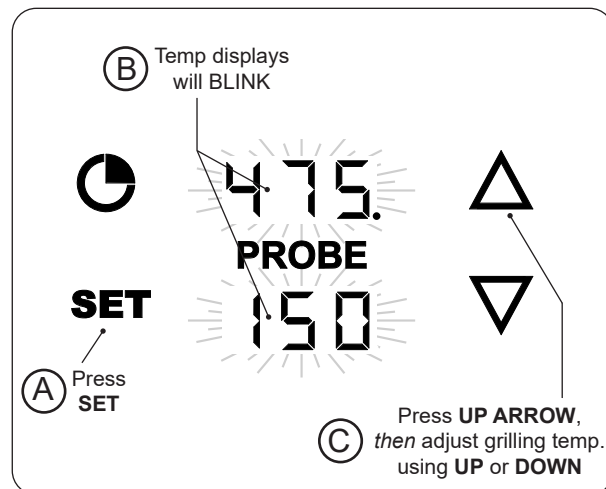

Fig. 30-1 Set grilling temp.
1. With the thermometer/thermostat **on**, press the **SET** button once. The grilling and probe displays will blink. (While blinking, either area can be selected to enter their settings.) See Fig. 30-1, A and B.
2. Press the **UP ARROW** to select the grilling temp settings, *then* use the up or down arrows to set the desired temp. (Fig. 30-1, C).